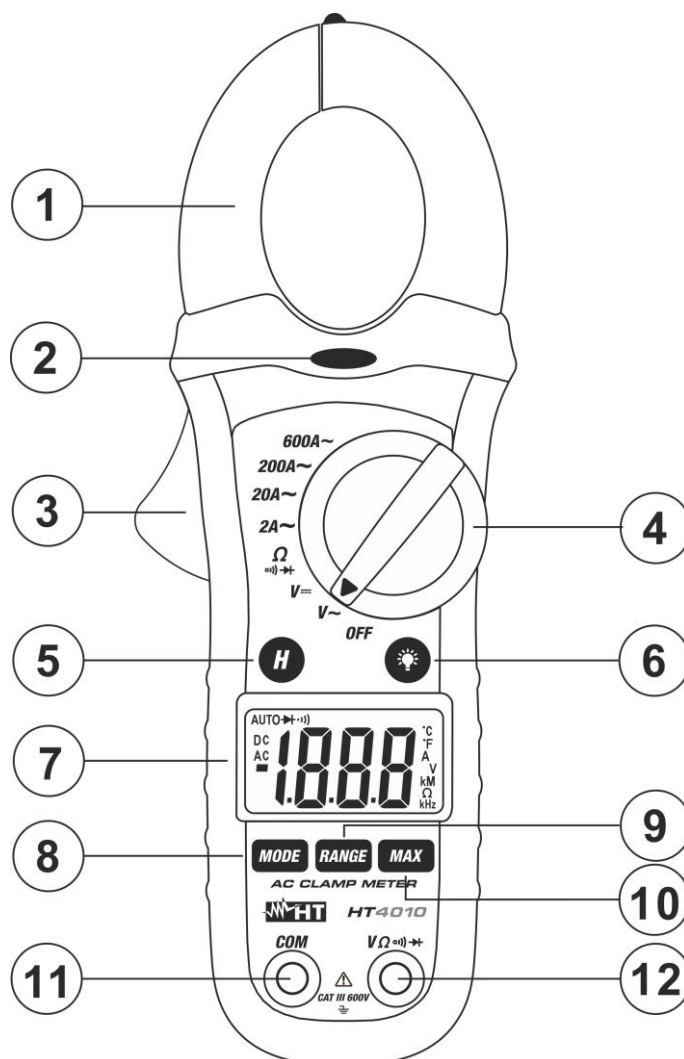

Fig. 1 Instrument description
Take the instrument near an AC source and look for the red LED on the top to turn on (see Fig. 1 – part 2); this indicates that the instrument has detected the source's presence
1. Approach the meter closest to AC source and note the turn on of red LED which is placed to the bottom of clamp jaws (see Fig.1 – part 2) which detect the AC voltage
1. Approach the meter closest to AC source. The turn on of red LED which is placed to the bottom of clamp jaws (see Fig. 1 – part 2) detect the AC voltage